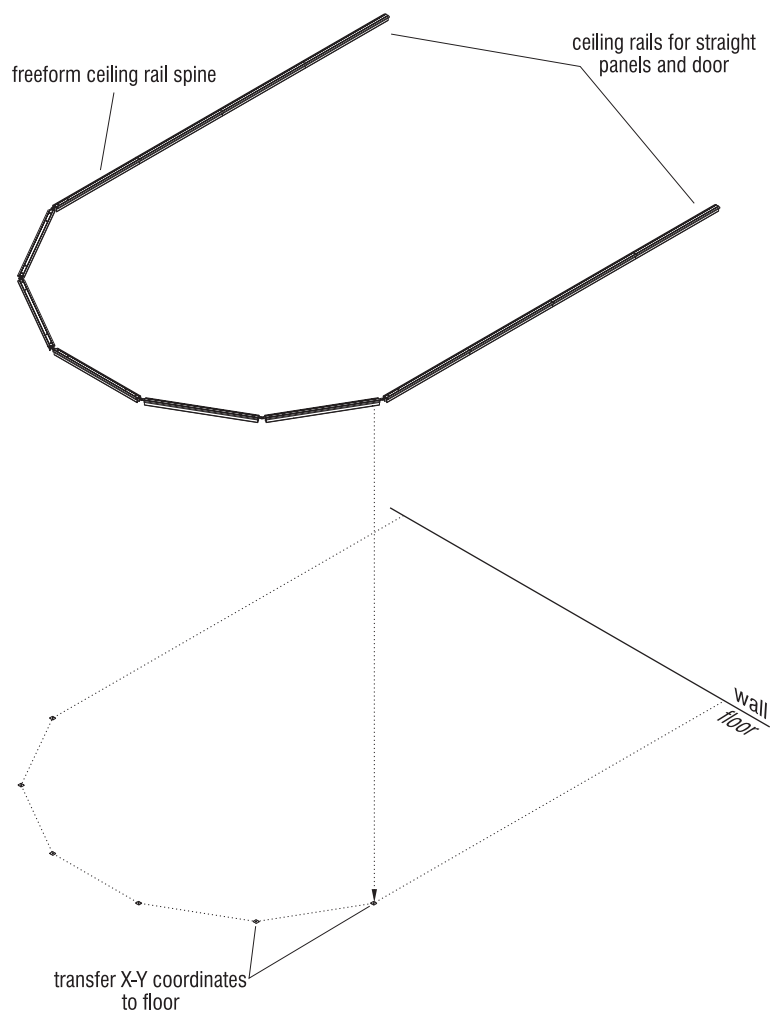

Figure 6 - Floor Channel Alignment Check and Marks for Installation
12. Using a laser alignment tool, align the lasers with the installed ceiling rail as done in previous steps for ceiling rail installation. Transfer X-Y coordinates to the floor to aid in aligning floor track with ceiling rail (Figures 6).